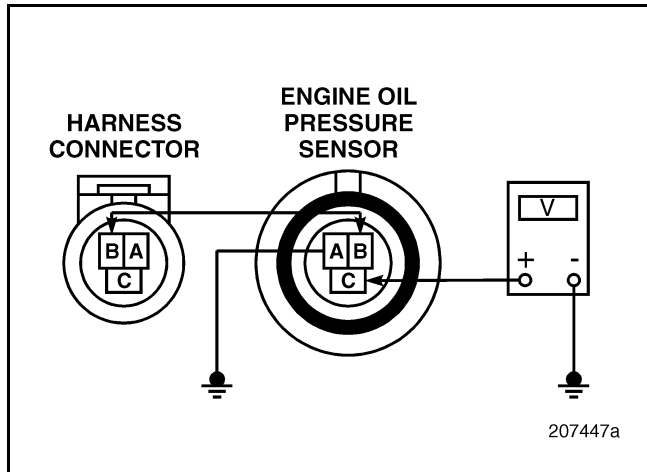

Figure 38
6. Measure the voltage between EOP sensor pin C and a good ground at various pressures between 0 psi and 80 psi (see Figure 38). The correct pressure and output voltage specifications are shown in the table below.